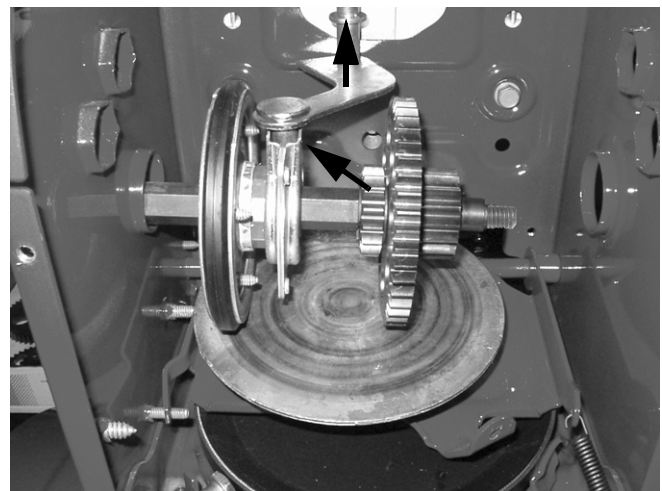

FIGURE 13
22. Install Drive Hex Shaft Assembly into the frame as shown in Figure 13. Raise the shift rod assembly up and rotate the Friction Wheel/Bearing Assembly to set the shift rod stud into the Friction Wheel/Bearing Assembly socket.